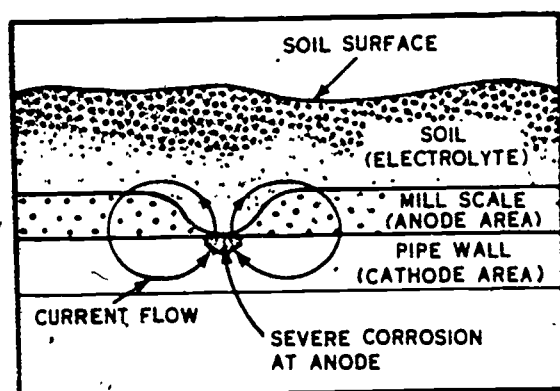

Figure 6-9 Corrosion due to mill scale
a. Corrosion due to mill scale. The mill scale embedded in the walls of iron pipe during its manufacture is one cause of pipe corrosion. It actually becomes the anodic area, the iron pipe the cathodic area, and the moist soil the electrolyte, as shown in figure 6-9. Current leaves the iron pipe wall, passes through the electrolytic soil to the mill scale and returns to the iron pipe. This electrochemical action causes severe pitting of the pipe metal at the anodic areas. Continued action of this type will eventually weaken the pipe to the extent of failure.